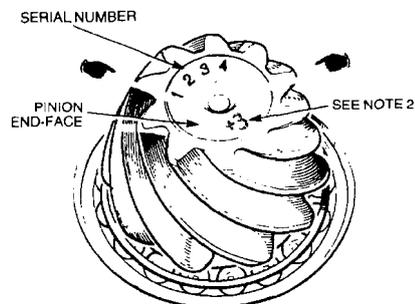

Figure 220 Pinion Shaft Markings
- d. Inspect the crown wheel and pinion and check that the serial number etched on the pinion end face matches the serial number etched on the crown wheel (Figure 220). If the numbers do not match replace the crown wheel and pinion set.